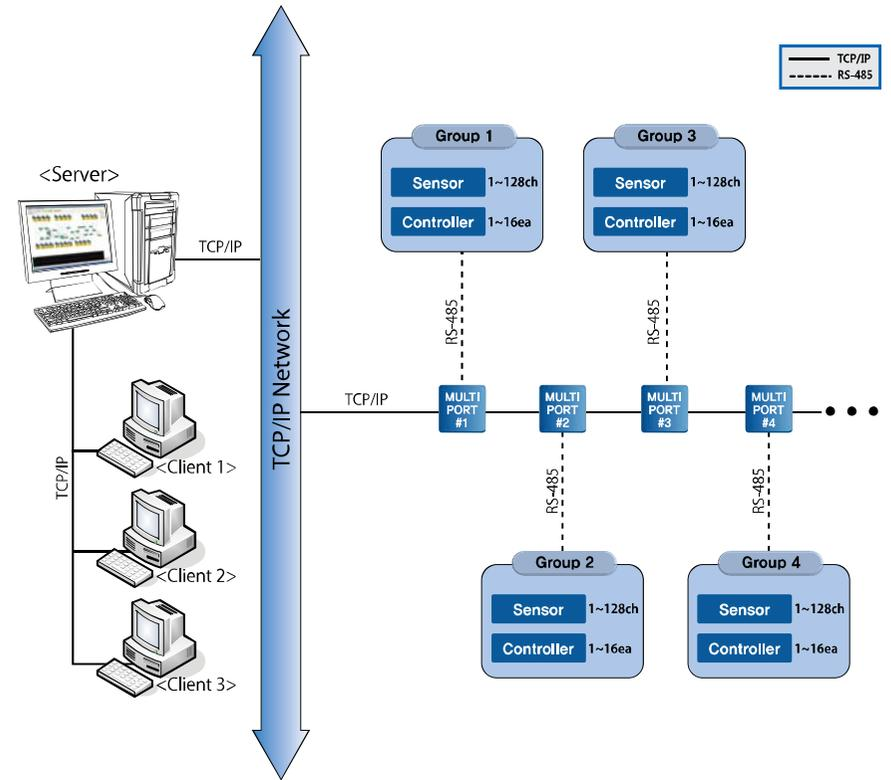

Figure 1 Diagram of System
< Fig.1> Select Print
- a. Select one to print between list and chart. <Fig. 1>